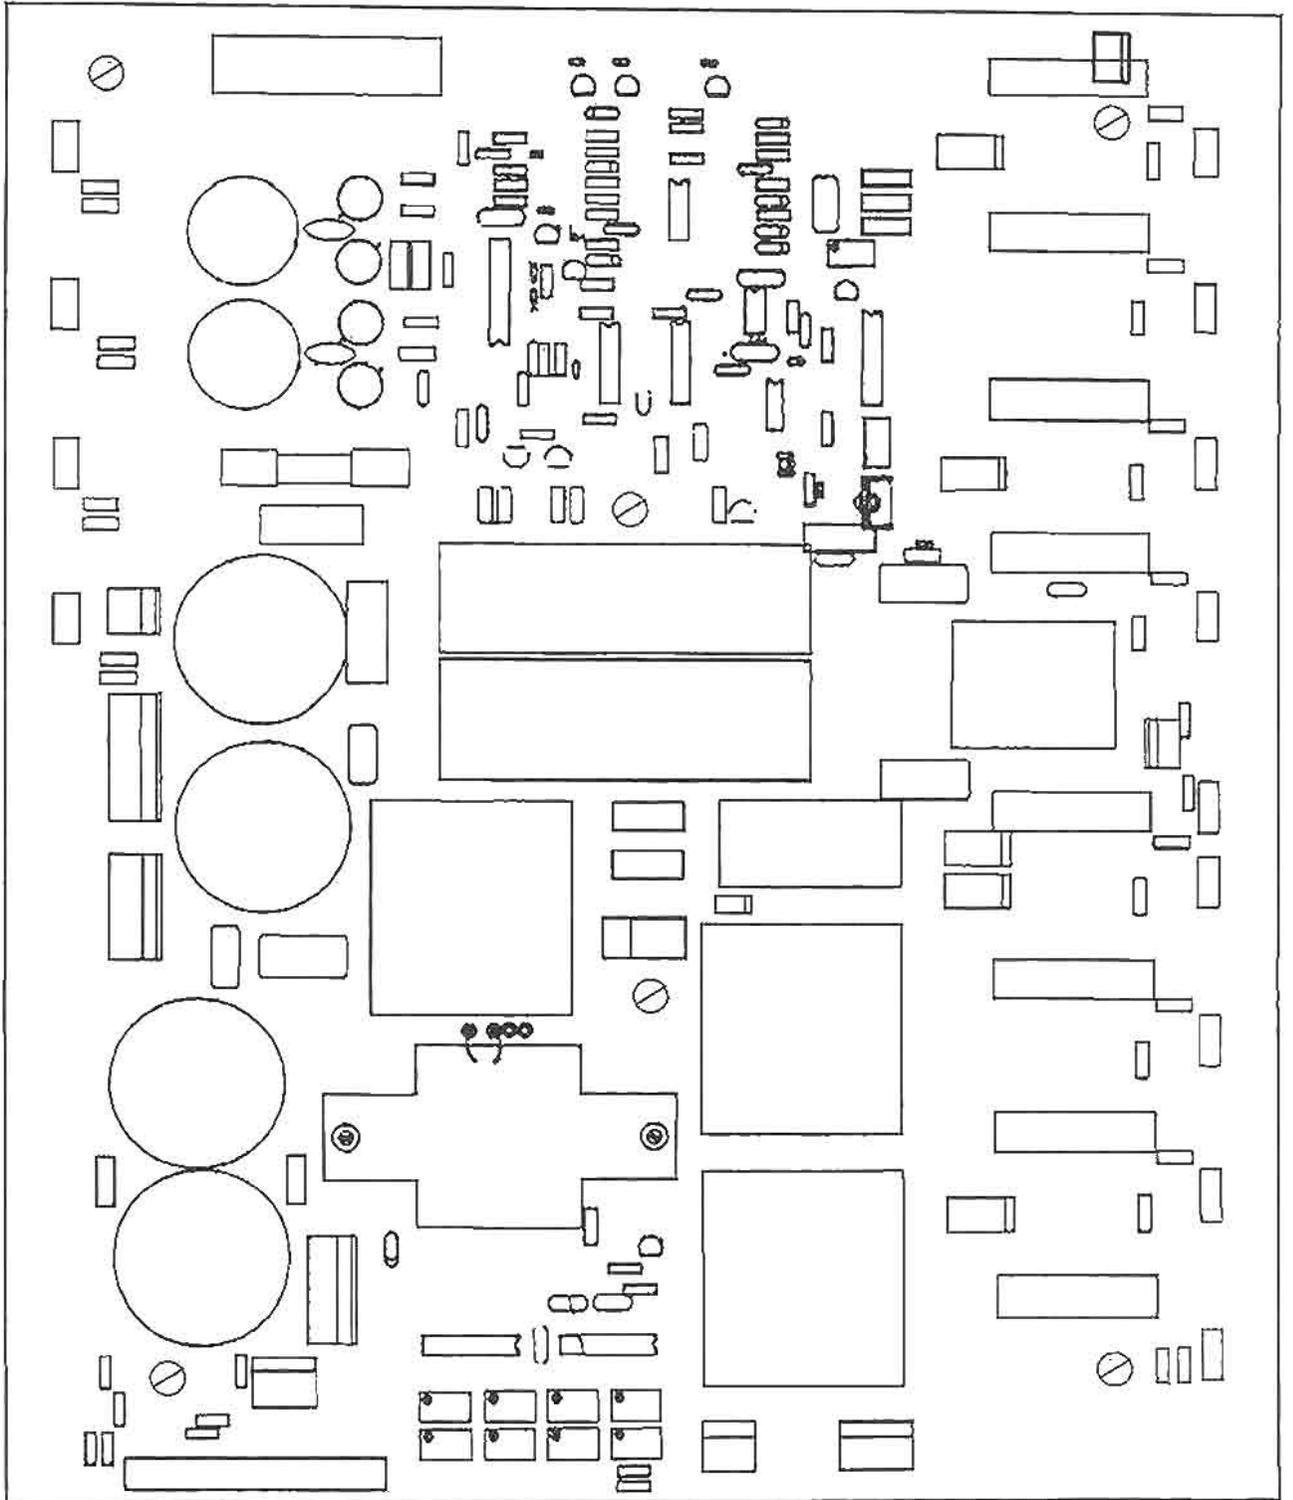
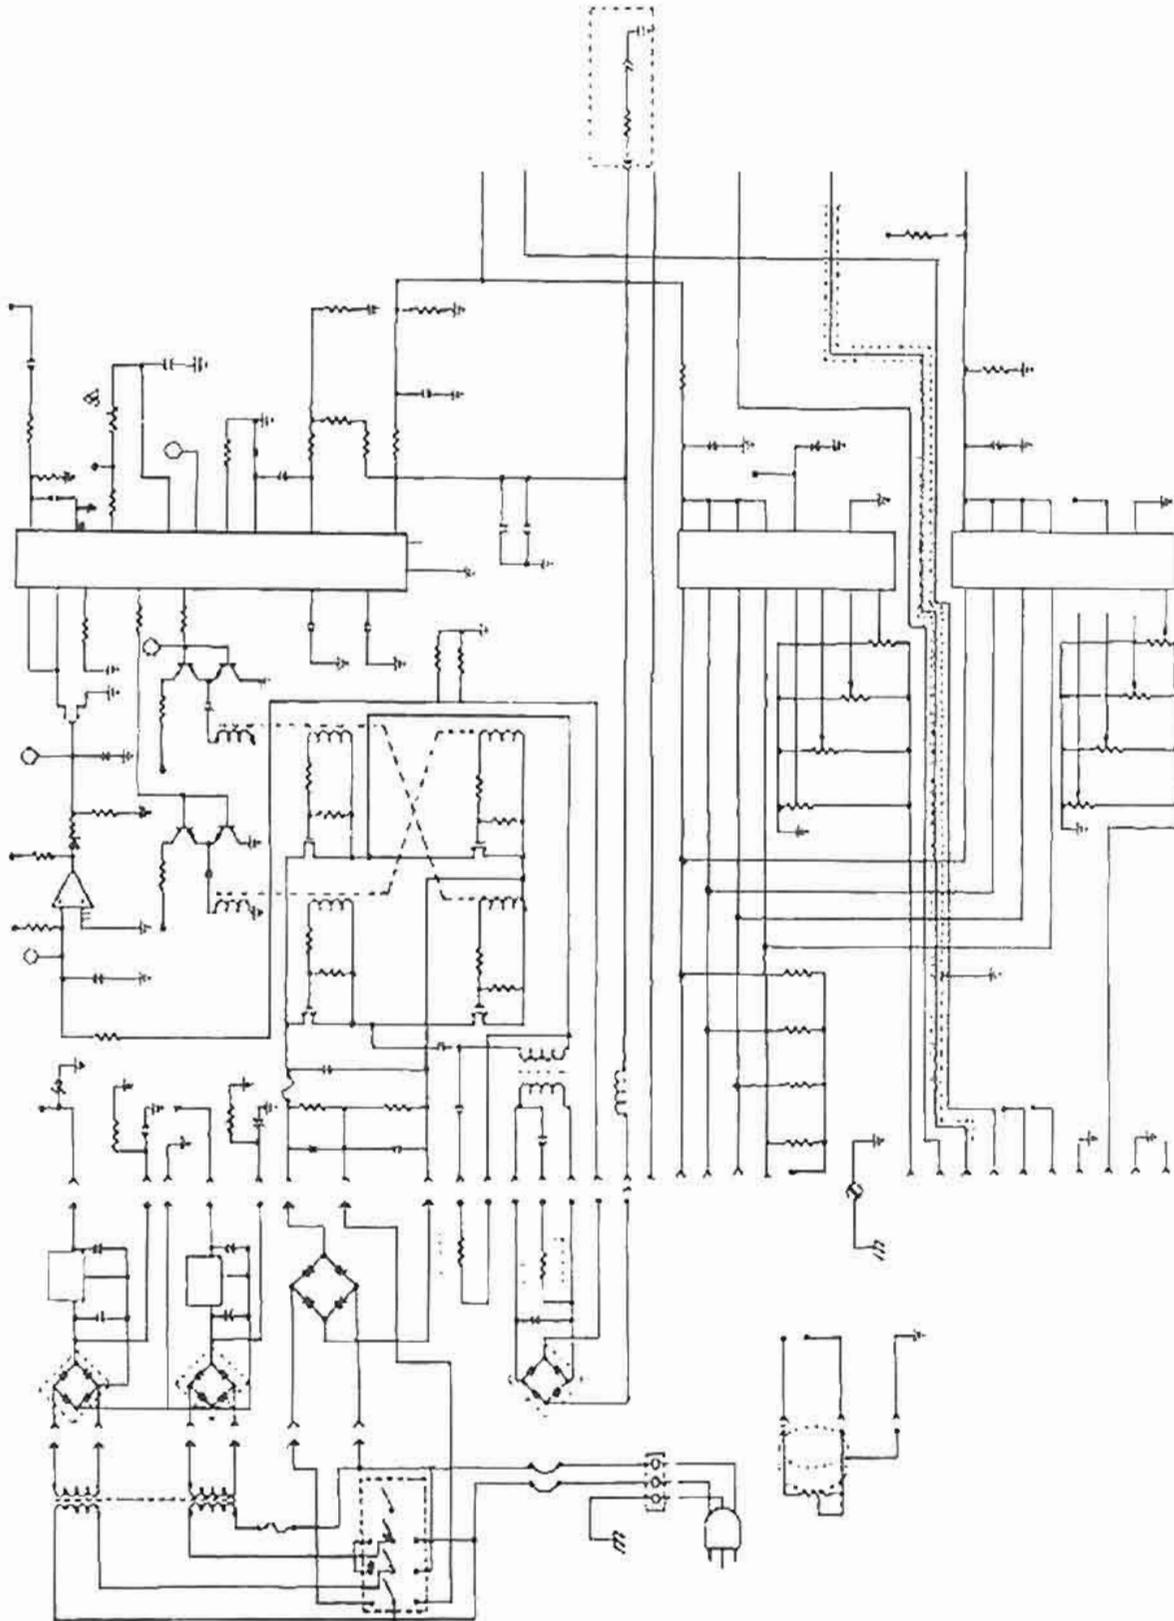

Figure 4-5. Power supply/RF PCB.
Figure 4-6. Power supply/RF PCB schematic.
(1) This circuitry amplifies the CPU on/off signals to the level required by the front panel wattage settings. Current limiting and peak voltage limiting circuits prevent damage under extreme load conditions. Varying the supply voltage controls power. Both DC supply and RF current limit levels are calibrated for each mode (CUT, COAG, BLEND 2, and BIPOLAR). The output tuning and transformer windings ratio is different for CUT and COAG waveforms and is selected by a relay. Eight power FETs act as RF switching elements. A current sampling resistor at the source provides input to a current limiting circuit. The gate drive is at a +12 VDC. The drains have diodes in series to allow the RF output transformer primary voltage to swing negative in COAG mode. The CUT mode waveform drive is a 50 percent cycle with a 1 μ s on time period. The COAG mode drive waveform is generated by turning on the FETs for 2 μ s every 32 μ s.
(2) RF control uses a set-reset flip-flop toggling at 500 kHz in CUT mode. The flip-flop is set by the turn on (TON) signal which turns on the output FETs. The flip-flop is cleared by the turn off (TOFF) signal or by a current limit pulse from the LM306 comparator. The current limit reference to turn the IC on is supplied by the CPU and varies as the square root of power with an offset at low powers. When peak voltage limiting occurs, the reference voltage to the LM306 comparator is reduced to lower the output pulse width. At high load impedances, a one-shot is triggered by transformer primary voltages below -100 VDC. This one-shot turns on a FET to load the output and reduce high frequency risk currents.
(3) The FET output is relatively low impedance and its voltage compliance is limited by the choice of DC power supply voltage as the power control resembles a constant voltage source. Below a 300-ohm load, the current limit circuitry enforces a constant current characteristic. A peak detector and comparator provide RF indicator control. The bipolar control adds an Op Amp to the power supply feedback path. This amplifies the difference between the RF output peak voltage and the power supply set point voltage. The difference is added with the feedback supply voltage by injecting current into the feedback divider to reduce the supply under high impedance load conditions. Current injection is enabled only in the bipolar mode.
(4) All eight output FETs must be the same type. Check current matching in COAG mode by clipping a current transformer around the 0.2-ohm resistors.
(5) The PSRF PCB is illustrated in figure 4-5 and the schematic diagram for the PCB is contained in figures 4-6 and 4-7.